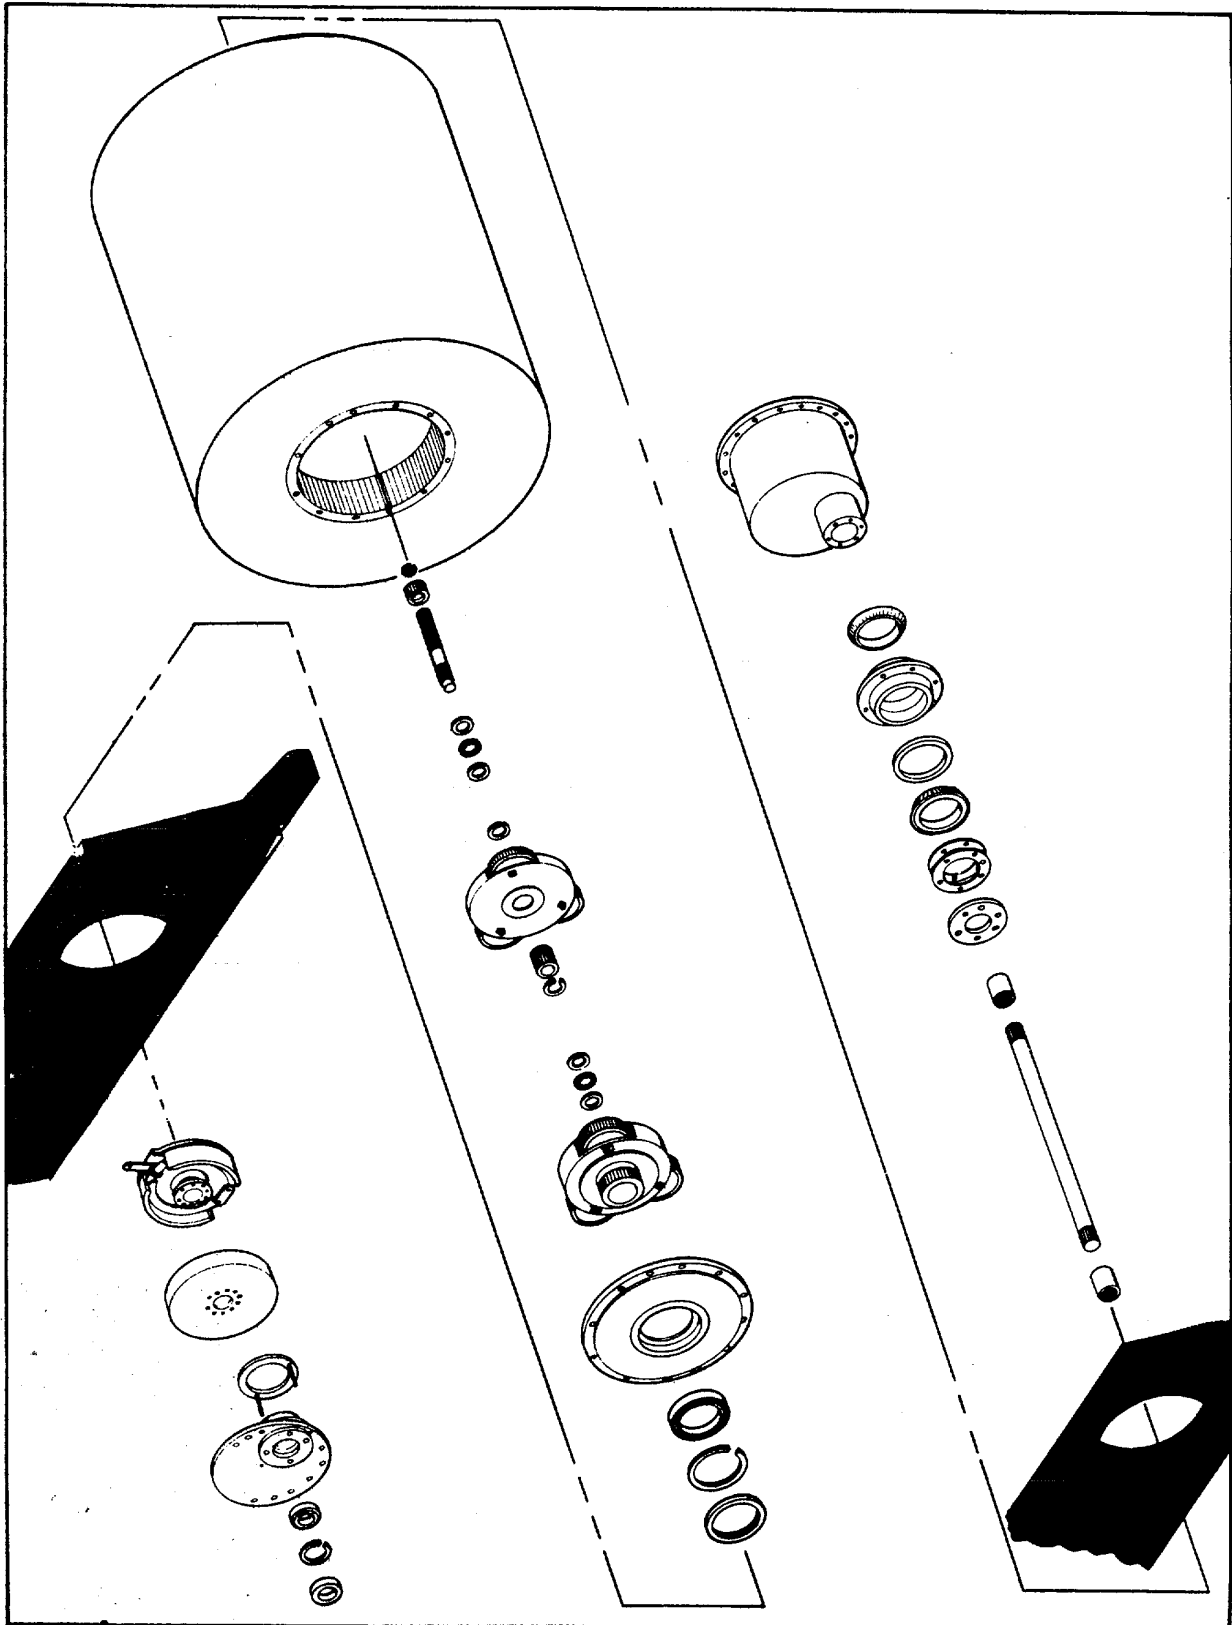

FIGURE 8-1.
8-5. The final drive consists of an internal, double reduction planetary system located within the left side of the single drive drum (see figure 8-1). Torque is transferred from the hydraulic motor (across the drum) to the planetary system by the drive shaft (A). A sun gear (B) is splined to this shaft and drives the smaller of the two planetary gear sets (C) in the opposite direction. This gear set (C), in turn, attempts to turn the ring gear (D) (bolted directly to the drive drum) in the same direction gear set (C) is traveling, but does not possess the mechanical advantage to do so.